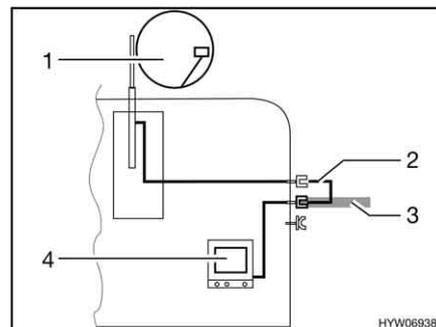

Fig. 191 TV inside the vehicle
- TV inside the vehicle (Fig. 191,4): Connection to roof antenna (Fig. 191,1) with connection cable (Fig. 191,2)
- TV inside the vehicle (Fig. 191,4): Connection to external antenna (Fig. 191,3)